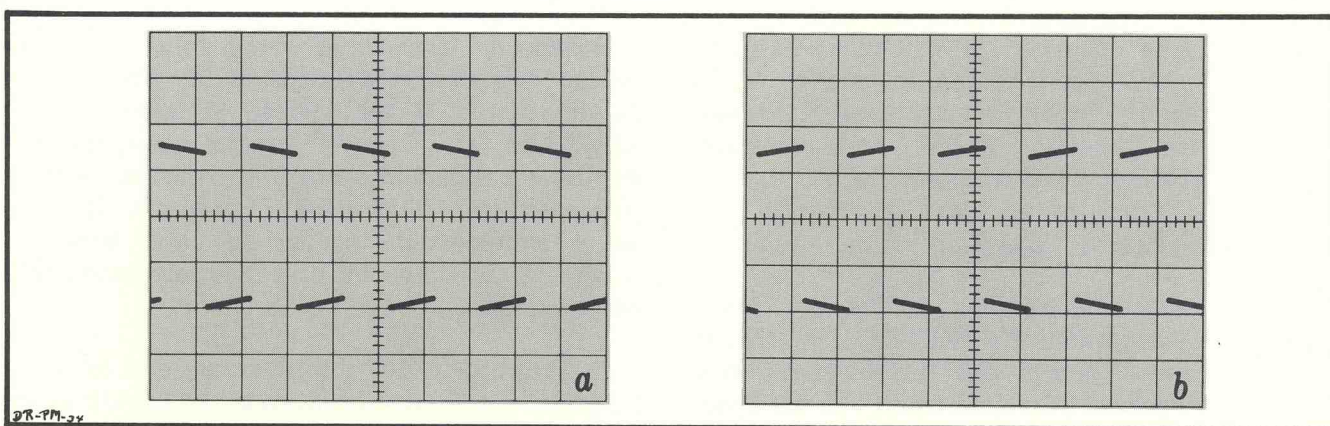
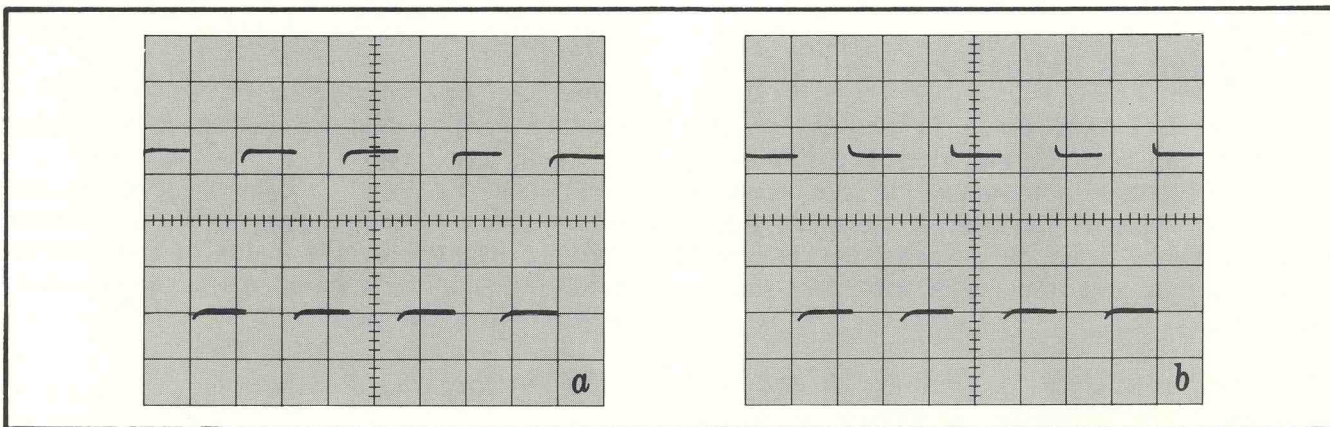

Fig. 4-2. (a) Low-frequency distortion caused by attenuation in X10-amplifier. (b) Waveform distortion from low-frequency overcompensation in X10-amplifier.
Fig. 4-3. (a) Waveform showing insufficient high-frequency peaking. (b) Spiking caused by excessive high-frequency peaking.
Distortion can be divided into two categories: (1) low-frequency distortion, illustrated in Fig. 4-2 and (2) high-frequency distortion, illustrated in Fig. 4-3.
(1) Any low-frequency distortion in the waveform will be produced by the X10 amplifier.
Low-frequency attenuation will produce the type of distortion illustrated in Fig. 4-2(a). This type of distortion can be caused by cathode and screen-bypass capacitors, and by coupling capacitors. Before attempting any component replacement, however, be sure to check the adjustment of the Low Freq. Adj. control (R6182), as explained in the Calibration Procedure.
Over-compensation of low frequencies is illustrated in Fig. 4-2(b). This condition is pro-
of distortion illustrated in Fig. 4-3(a). The transconductance of the tubes is very important in maintaining good high-frequency response. For this reason, the tubes themselves are the most frequent sources of this type of distortion. Shorted, or partially shorted peaking coils are another common source. Hot solder falling on a peaking coil is often a cause of this condition. Cross-coupling capacitors C6672 and C6772 are also very
The overshoot condition, illustrated in Fig. 4-3(b) is produced by excessive high-frequency peaking. An improper setting of the H.F. Peaking control (R6692) can cause this condition. Refer to the Calibration Procedure for the proper adjustment of this control.